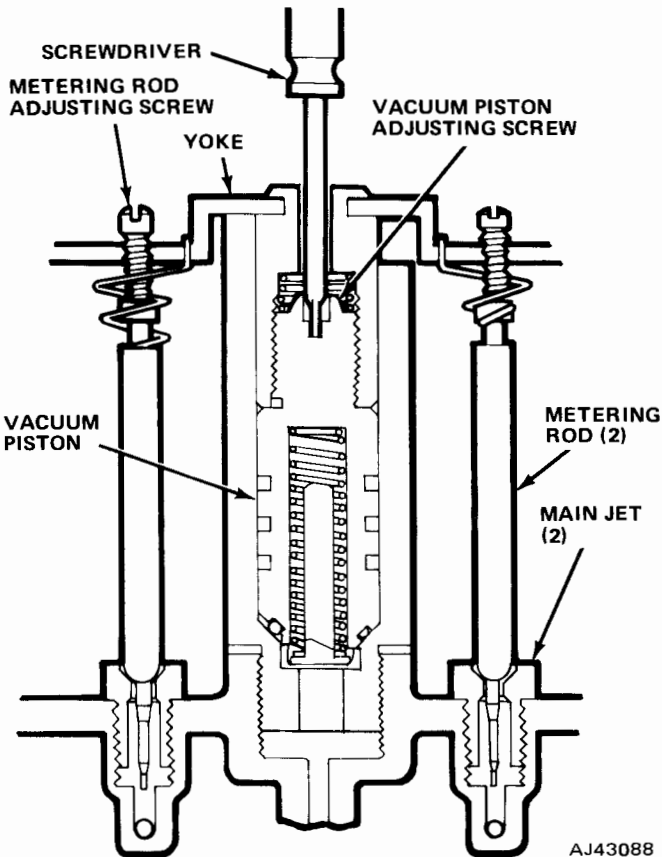
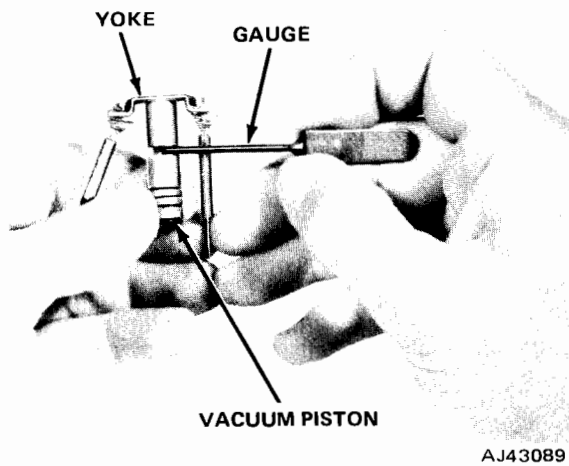

Fig. 4-76 Metering Rod Adjustment
Fig. 4-77 Metering Rod Vacuum Piston Adjustment
(1) Depress metering rod yoke. Using a small screwdriver, turn the vacuum piston adjusting screw counterclockwise until yoke is seated against the vacuum piston cylinder (fig. 4-76).
(2) Turn metering rod adjusting screws until large diameter of metering rods contact and seat in the main jets.
(3) Remove plastic yoke retainer.
(4) Remove metering rod and yoke assembly.
(5) Turn vacuum piston adjusting screw clockwise to move vacuum piston away from yoke until 0.120 (\pm 0.005) inch clearance is obtained (fig. 4-77).
(6) Install metering rod and yoke assembly.
(7) Install plastic yoke retainer.